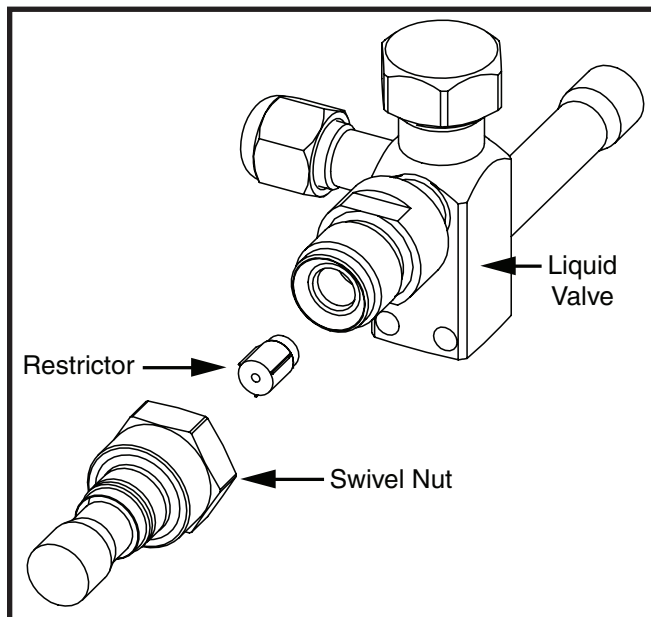

Figure 2. Liquid Valve, Restrictor, & Swivel Nut Adapter
If the outdoor unit has the liquid valve shown in Figure 2, then the restrictor is located inside the swivel nut connection of the liquid valve and not inside the outdoor unit's distributor. Perform steps 1 - 5 if the outdoor restrictor needs to be changed.
4. Insert the new orifice into the valve body, with the rounded end facing into the valve. See Figure 2.